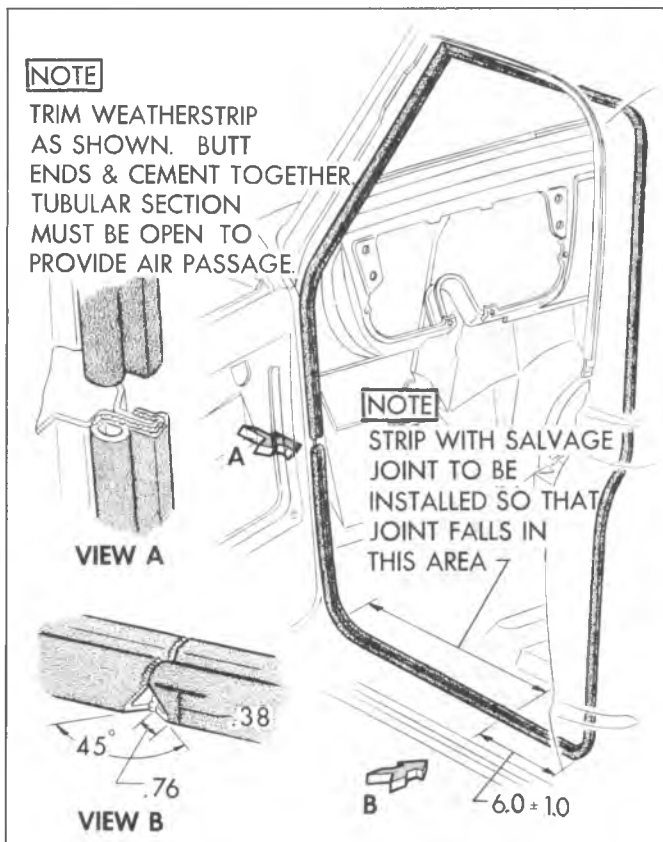

Fig. 35—Door Opening Weatherstrip
DOOR OPENING WEATHERSTRIP (Fig. 35)
7. Trim inner weatherstrip with a notch as shown in Figure 35 and butt ends together.